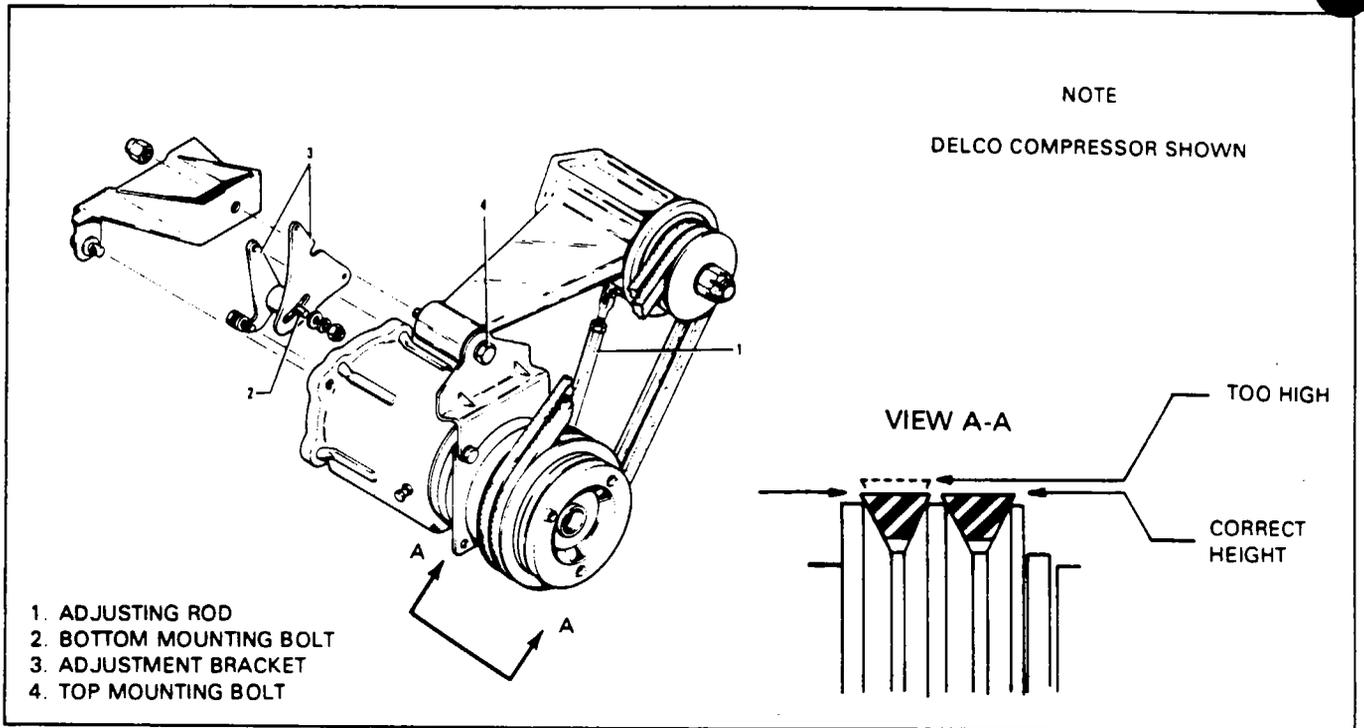

Figure 21-21. Compressor and Drive Assembly
**INSTALLATION OF COMPRESSOR.** (Refer to Figure 21-21.)
- C. After initial compressor operation of up to (1) hour, recheck the tension. If the recheck is made immediately after the engine is shutdown (hot) and tension is below 50 lbs., readjust the tension to 50 lbs. If the recheck is made cold and tension is below 90 lbs., readjust the tension to  $90 \pm 5$  lbs.
Compressor oil will not be lost unless a freon leak has occurred; therefore, the oil level is not to be checked unless a freon leak has occurred. However, it is possible to lose freon from the system without loss of compressor oil. It is then a matter of good judgment as to whether the oil level is to be checked. If any major loss of oil has occurred, proceed as follows after making the necessary repairs. (Refer to Figure 21-21.)